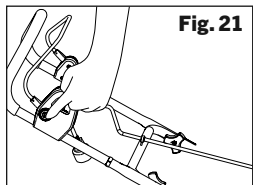

Fig. 21
1. To power on, depress and hold the safety switch button found alongside the switch housing (Fig. 21).